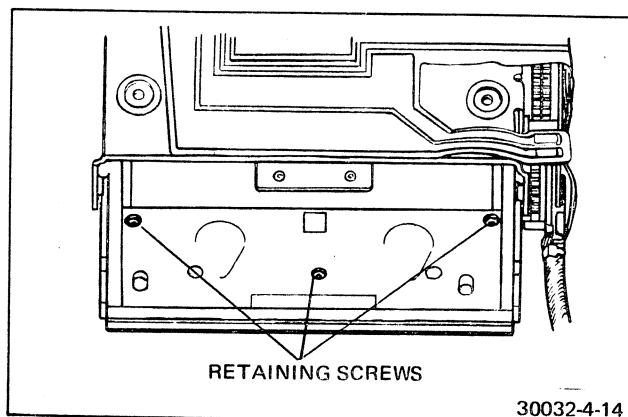

FIGURE 4-14 BOOT RETAINING SCREWS
8. Remove the inner-frame-to-boot-retainer screws. See Figure 4-14.